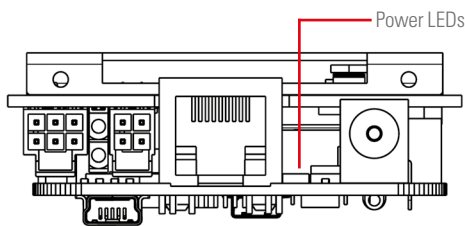

Fig. 4. NIMBUS card inserted into its slot
2. Insert the NIMBUS card into the appropriate slot of the device. It needs to be well inserted. The card will be powered directly by the device, meaning that no external power is necessary. If the card has been correctly inserted, the power LEDs will light up. See Fig. 4.